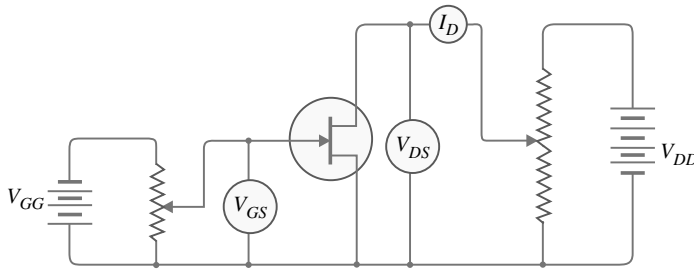
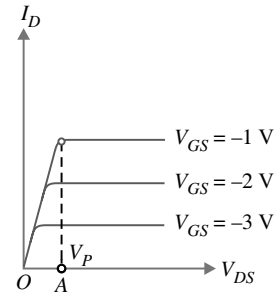
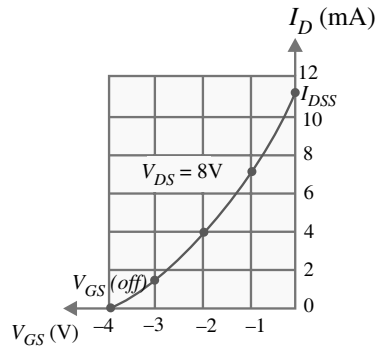

Fig. 17.8
Fig. 17.9
Fig. 17.10
The curve between drain current ( $I_D$ ) and drain-source voltage ( $V_{DS}$ ) of a JFET at constant gate-source voltage ( $V_{GS}$ ) is known as **output or drain characteristics of JFET**. Fig. 17.8 shows the circuit for determining the output characteristics of an *n*-channel JFET. Keeping  $V_{GS}$  fixed at some value, say  $-1V^*$ , the drain-source voltage is changed in steps. Corresponding to each value of  $V_{DS}$ , the drain current  $I_D$  is noted. A plot of these values gives the output characteristic of JFET at  $V_{GS} = -1V$ . Repeating similar procedure, output characteristics at other gate-source voltages can be drawn. Fig. 17.9 shows a family of output characteristics.
(i) At first, the drain current  $I_D$  rises rapidly with drain-source voltage  $V_{DS}$  but then becomes constant. The drain-source voltage above which drain current becomes constant is known as *pinch off voltage*. Thus in Fig. 17.9,  $OA$  is the *pinch off voltage*  $V_P$ .
Another way to graphically display the characteristics of an *n*-channel JFET is with transconductance curve shown in Fig 17.10. The circuit shown in Fig. 17.8 can be used to draw the transconductance curve. Keeping  $V_{DS}$  fixed at some value, say  $8V$ , the gate-source voltage ( $V_{GS}$ ) is changed in steps. Corresponding to each value of  $V_{GS}$ , the drain current  $I_D$  is noted. A plot of these values gives the transconductance curve of JFET at  $V_{DS} = 8V$ .
- (v) The *JFET* must be operated between  $V_{GS} = 0V$  and  $V_{GS(off)}$ . For this range of gate-to-source voltages,  $I_D$  will vary from a maximum of  $I_{DSS}$  to a minimum of almost zero [See Fig. 17.10].